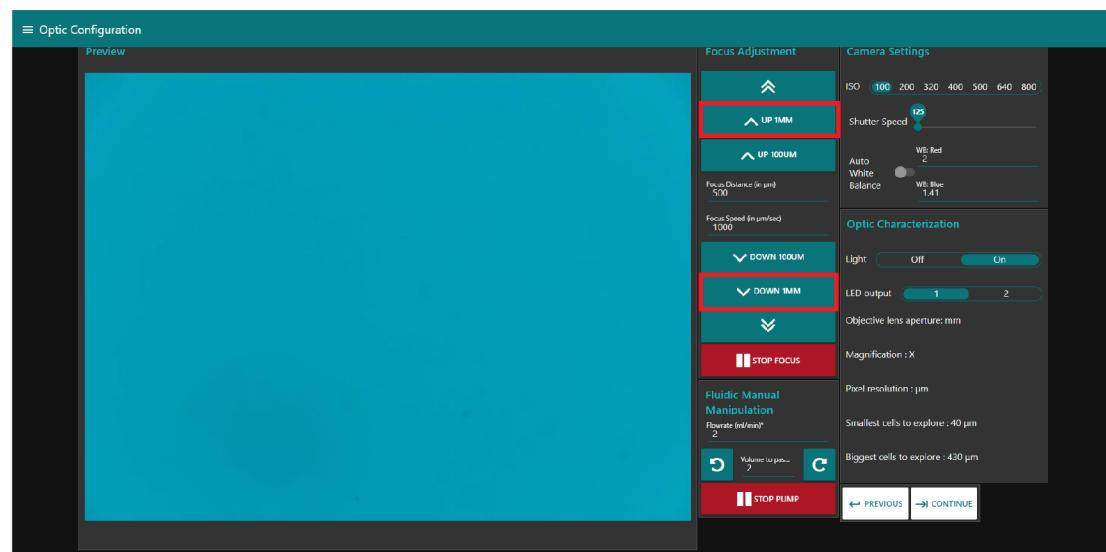

Figure 4: Red boxes highlight 'UP 1MM' and 'DOWN 1MM' that will move the Mount (pictured below).
b) Under Focus Adjustment (fig.4), **click 'UP 1MM' and 'DOWN 1MM'** to ensure focus buttons turn the focus motor (same for the 100 microns version of the button). You should see the